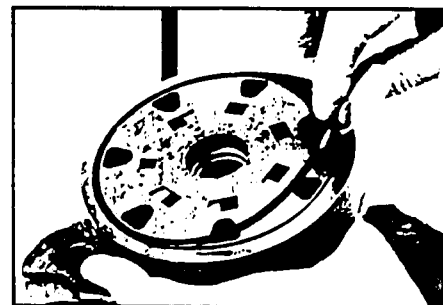

Figure 55
15. Apply clean grease to a new seal ring (4) and assemble it in the seal ring groove in the rotor set contact side of manifold (7). SEE FIGURE 55.